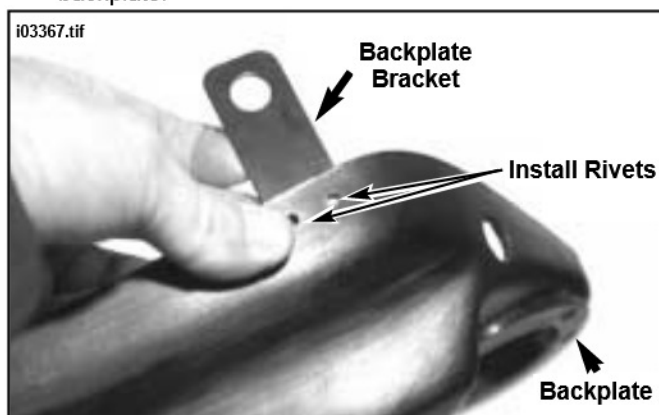

Figure 7. Install Backplate Bracket
22. See Figure 7 and Service Parts Illustration. Obtain backplate and backplate bracket from kit. Orient bracket as shown and install two rivets to secure bracket to backplate.